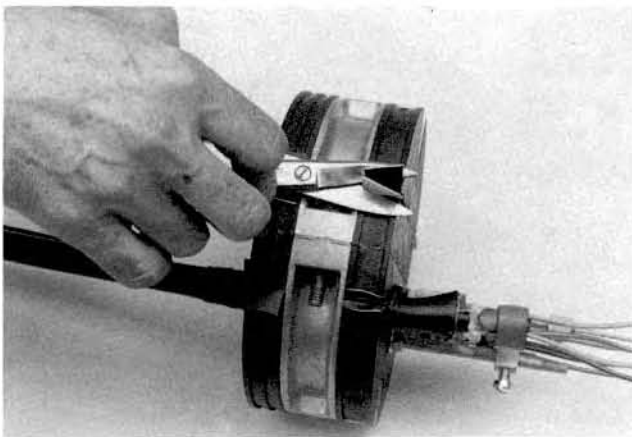

Figure 25
11.02 After the tightening procedure is complete, trim the excess LOCK-TAPE™ Sealant with snips to within 1/8" of the end plate. Do not pull the tape when trimming. Figure 25.